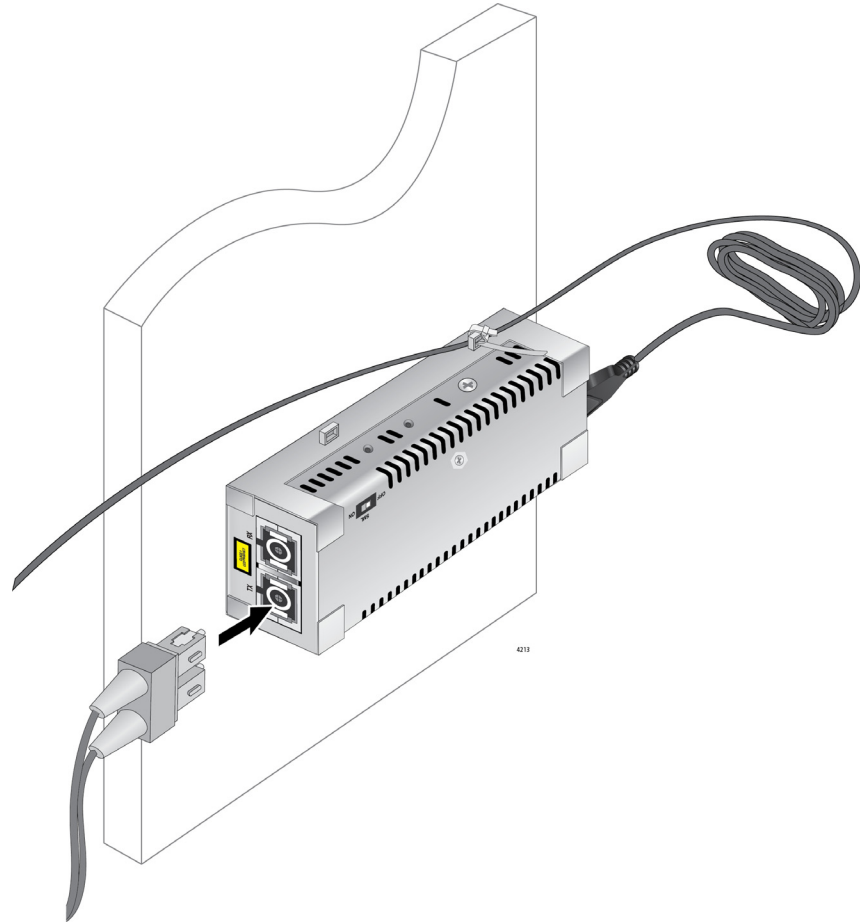

Figure 25. Connecting Cable to Fiber Optic Port
5. Remove the dust cover from the fiber-optic connector(s) and connect the cable to the fiber-optic port as shown in Figure 25 on page 48.